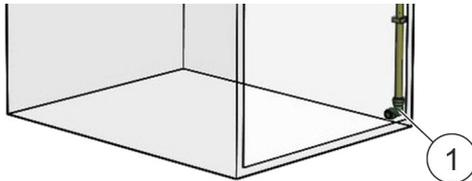

Fig. 30: Elbow and plug
3. ➔ Fit an elbow at the end of the suction pipe in the bottom area of the cabinet and close the elbow with a plug (Fig. 30/1).